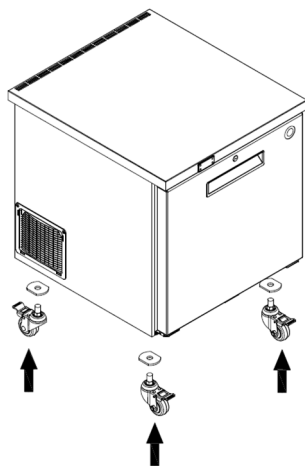

Fig.4
- Screw the castors (see Fig 4)